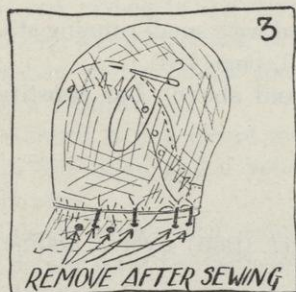

FIG. 3.
- b. Sew maline to the top edge of the ribbon with small running stitches, while it is still on the block (see Figure 3).
- c. Remove the thumb tacks and pins that hold the maline at the base of the block, but do not remove those that are in the ribbon (see Figure 3).
- Sew the taffeta crown to the belting ribbon headsize band with small running stitches that are taken near the upper edge of the ribbon (see Figure 3, page 223).